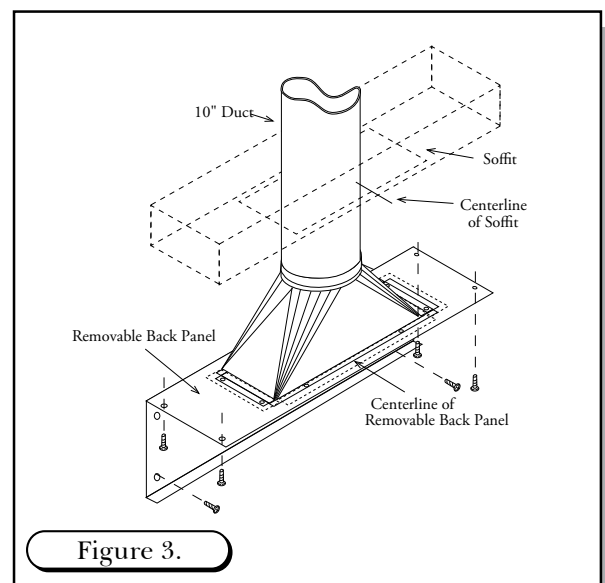

Figure 3.
6. Secure the back side of the removable back panel to the wall stud. (See Figure 3)